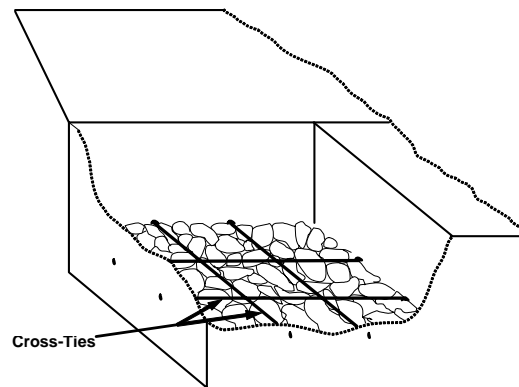

Figure 9: Cross-Ties in partially-filled gabion
- 4.5:** If the gabion height (H) is more than 500mm then cross-ties of HDPE braid should be installed as shown in Figure 9 at vertical intervals of 250-400mm to improve stability and quality of finish.